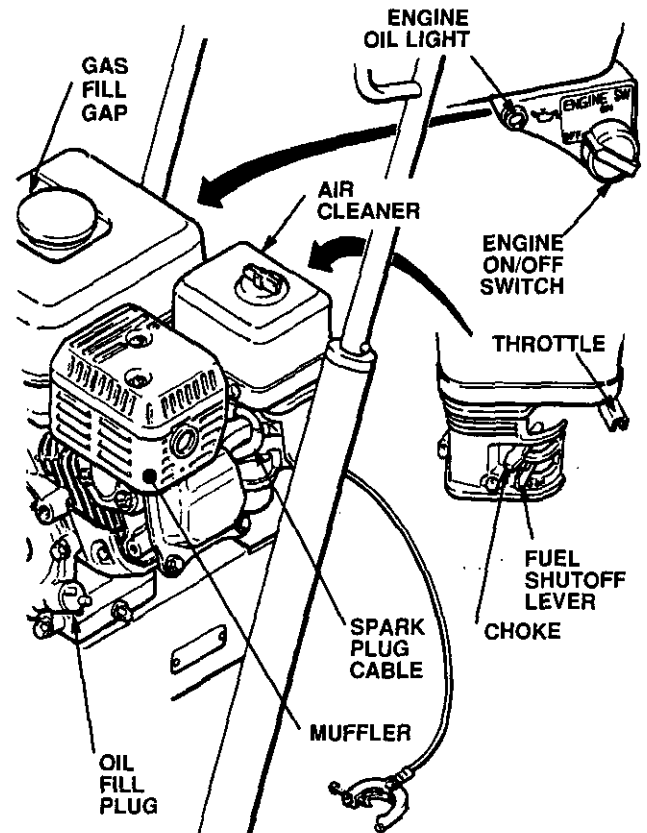

Fig 11-1
4. **Check the engine oil level.** Refer to the Honda engine manual, supplied. This is a summary of the information: Remove one of the oil fill plugs; the oil should be almost overflowing. See Fig 11-1. Add oil as necessary.